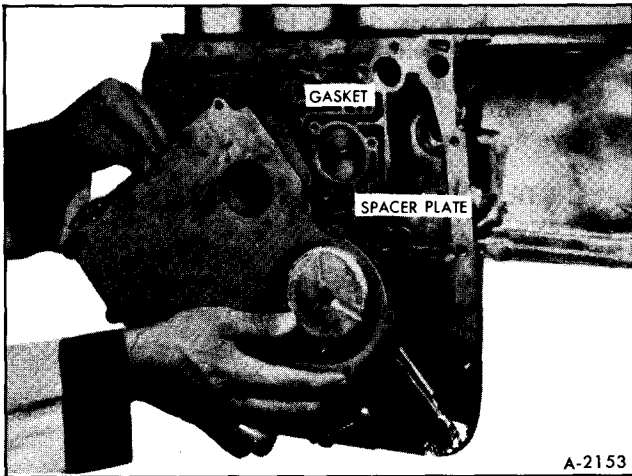

Figure 27—Removing Control Valve Spacer
8. Remove control valve spacer and spacer-to-transmission case gasket, Figure 27.